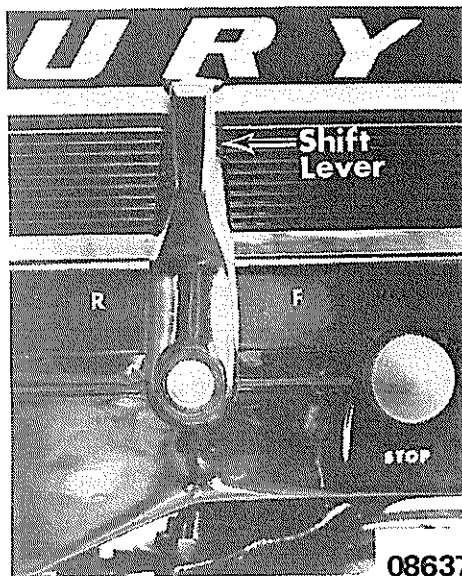

Figure 12. Shift Lever
**IMPORTANT:** Motor can be tilted-up manually only when placed in "Forward" gear. (Figure 12)
1. Retard twist grip throttle to "Shift Range" (Figure 9) and shift into "Forward" (Figure 12)
Gear positions are FORWARD (toward front), NEUTRAL (vertical, as shown in Figure 12) and REVERSE (toward rear). If remote controls are used, approximately the first 45 degrees of control handle travel . . . forward and reverse . . . shifts the motor. The remainder of the control handle movement advances the throttle.